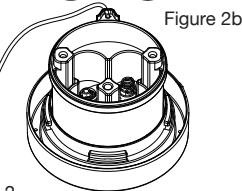

Figure 2b
5. Insert 2 batteries with the (+) side facing up and 2 batteries with the (-) facing down (Figure 2b).